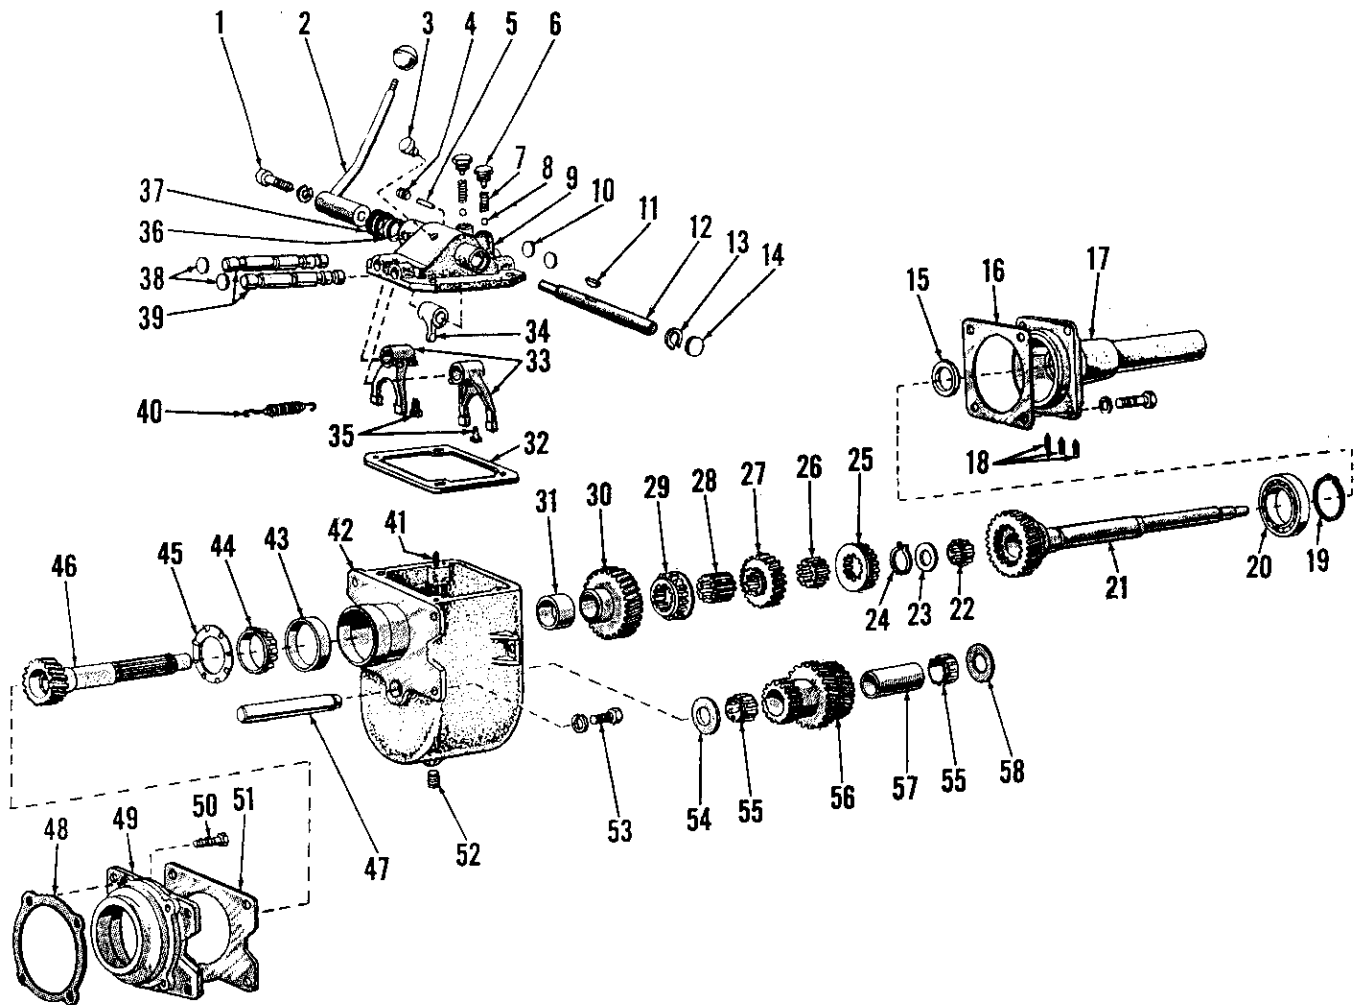

Fig. 182—Exploded view of auxiliary transmission that is available for installation in models with standard shift four-speed transmission.
186. Separate (split) tractor between engine and transmission housing as outlined in paragraph 181. Disconnect the clutch release bearing springs (40—Fig. 182) and remove the bearing. Drain the auxiliary transmission and main transmission. Remove the socket head screw (1) from auxiliary transmission shift lever (2) and remove the lever. Then, unbolt and remove the auxiliary transmission from mounting flange (49) on front of main transmission housing.
187. **SHIFTER RAILS AND FORKS.** To remove shifter rails and forks, the auxiliary transmission must be removed as outlined in paragraph 186. Refer to Fig. 182, remove the retaining cap screws and lift shifter cap assembly (9) from gear case. Remove the two detent caps (6), detent springs (7) and detent balls (8) from shifter cap. Remove lock wires and the drilled head set screws (35) from shifter fingers (forks) (33). Remove the Welch plugs (38) from the shifter rod bores at the rear of the shifter cap, then drive the shifter rods (39) out the front of shifter cap. Remove the set screw (4) from the interlock bore and remove the interlock (5). Remove the snap ring (13) from the groove on the selector shaft (12) and slide the selector fork (34) and snap ring toward the end of the selector
189. **CLUTCH SHAFT.** With tractor separated (split) as in paragraph 181 and the unit drained, the clutch shaft (21—Fig. 182) can be removed by unbolting the support (17) and pulling the support and clutch shaft assembly from the gear case. Remove the roller bearing (22) and the thrust washer (23) from the pilot end of
thrust washer (23), then the roller bearing (22) on the pilot end of drive shaft (46) and using new gasket, install the front support and clutch shaft assembly removed as in paragraph 189, refer to Fig. 182 and remove snap ring (24) from drive shaft (46). Then remove front shift collar (25), short spline sleeve (26), step-up gear (27), rear shift collar (29), long spline sleeve (28), step-down gear (30) and spacer (31) from drive shaft.
190. DRIVE SHAFT. With the shifter cap assembly removed as in paragraph 187 and the front support and clutch shaft assembly removed as in paragraph 189, refer to Fig. 182 and remove snap ring (24) from drive shaft (46). Then remove front shift collar (25), short spline sleeve (26), step-up gear (27), rear shift collar (29), long spline sleeve (28), step-down gear (30) and spacer (31) from drive shaft. NOTE. Identify shift collars (25 and 29) so they can be reinstalled in their proper positions. Pull the drive shaft,
192. **CLUSTER GEAR AND SHAFT.** Remove the drive shaft assembly as outlined in paragraph 190. Refer to Fig. 182 and drift the cluster shaft (47) out toward rear of gear case and catch cluster gear (56) and thrust
Fig. 185—Exploded view of four-speed transmission gears, shafts and related parts. Items 1 through 6 are not used on models equipped with auxiliary transmission; refer to Fig. 182.